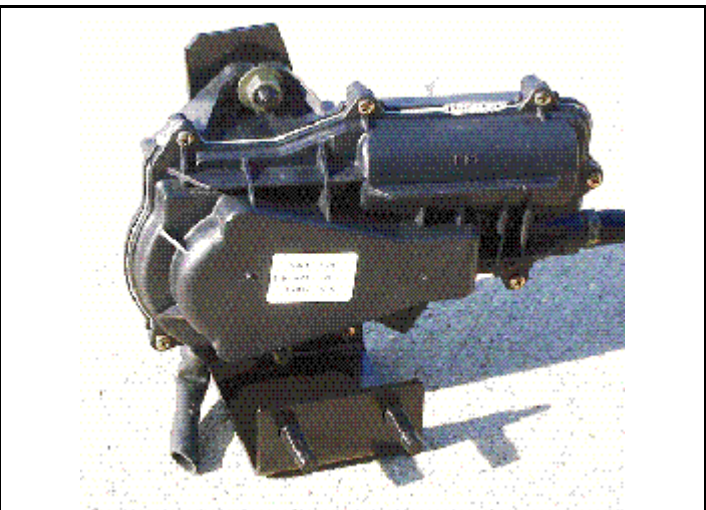

FIGURE 2
2. Assemble the stop motor on the stop motor mounting bracket, shown in Figure 2 on the right, using the two (2) bolts and two (2) nuts provided.